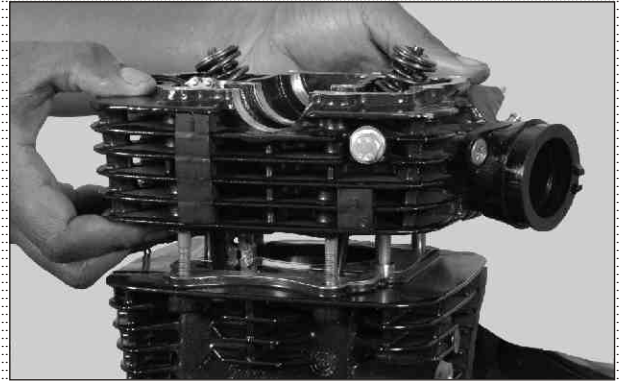

Fig. 3.82
- Holding the chain, gently lift the head complete cylinder as an assembly along with tensioner cam chain. (Fig. 3.82)